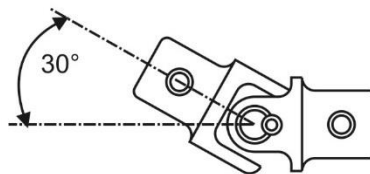

Figure 2
3...Next, with the driver in the seat, slide the steering column over the 3/4" steering shaft. Now slide the steering wheel assembly of the end for the 3/4" steering shaft. Have the driver hold the steering wheel at the correct angle, desired height and distance from the driver. Mark the steering shaft (3/4" tubing) flush with the top of the steering hub (weld bung) and cut off. Use the left over 3/4" steering shaft as weld supports for the steering column making sure everything is still in line and at the correct angle and height. U-joint angle can be no more than 30°. See **Figure 2** for maximum operating angle.